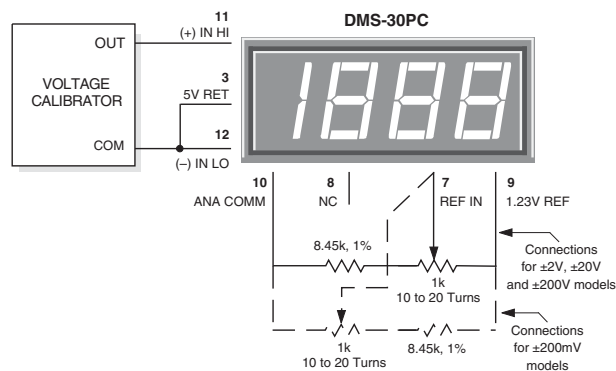

Figure 10. External Gain Adjustment
**6. Gain Adjust:** There is a gain-adjust potentiometer on the back of each meter. It has approximately  $\pm 50$  counts ( $\pm 2.5\%$ ) of adjustment range. Since these devices essentially have no zero/offset errors, a gain adjustment is effectively an overall accuracy adjustment. Though they may be performed at any point (except zero), accuracy adjustments are most effective when performed with higher level input signals. The circuit shown in Figure 10 provides  $\pm 10\%$  range of adjustment.
**8. External Gain Adjustment:** Connect REFERENCE OUT (pin 8) to REFERENCE IN (pin 7) for normal, factory calibrated, operation. Use the +1.23V REFERENCE OUT (pin 9) for applications needing external gain adjustment. Figure 10 shows the wiring configuration for each model. Calibration is performed with a precise, near-full-scale, input voltage.